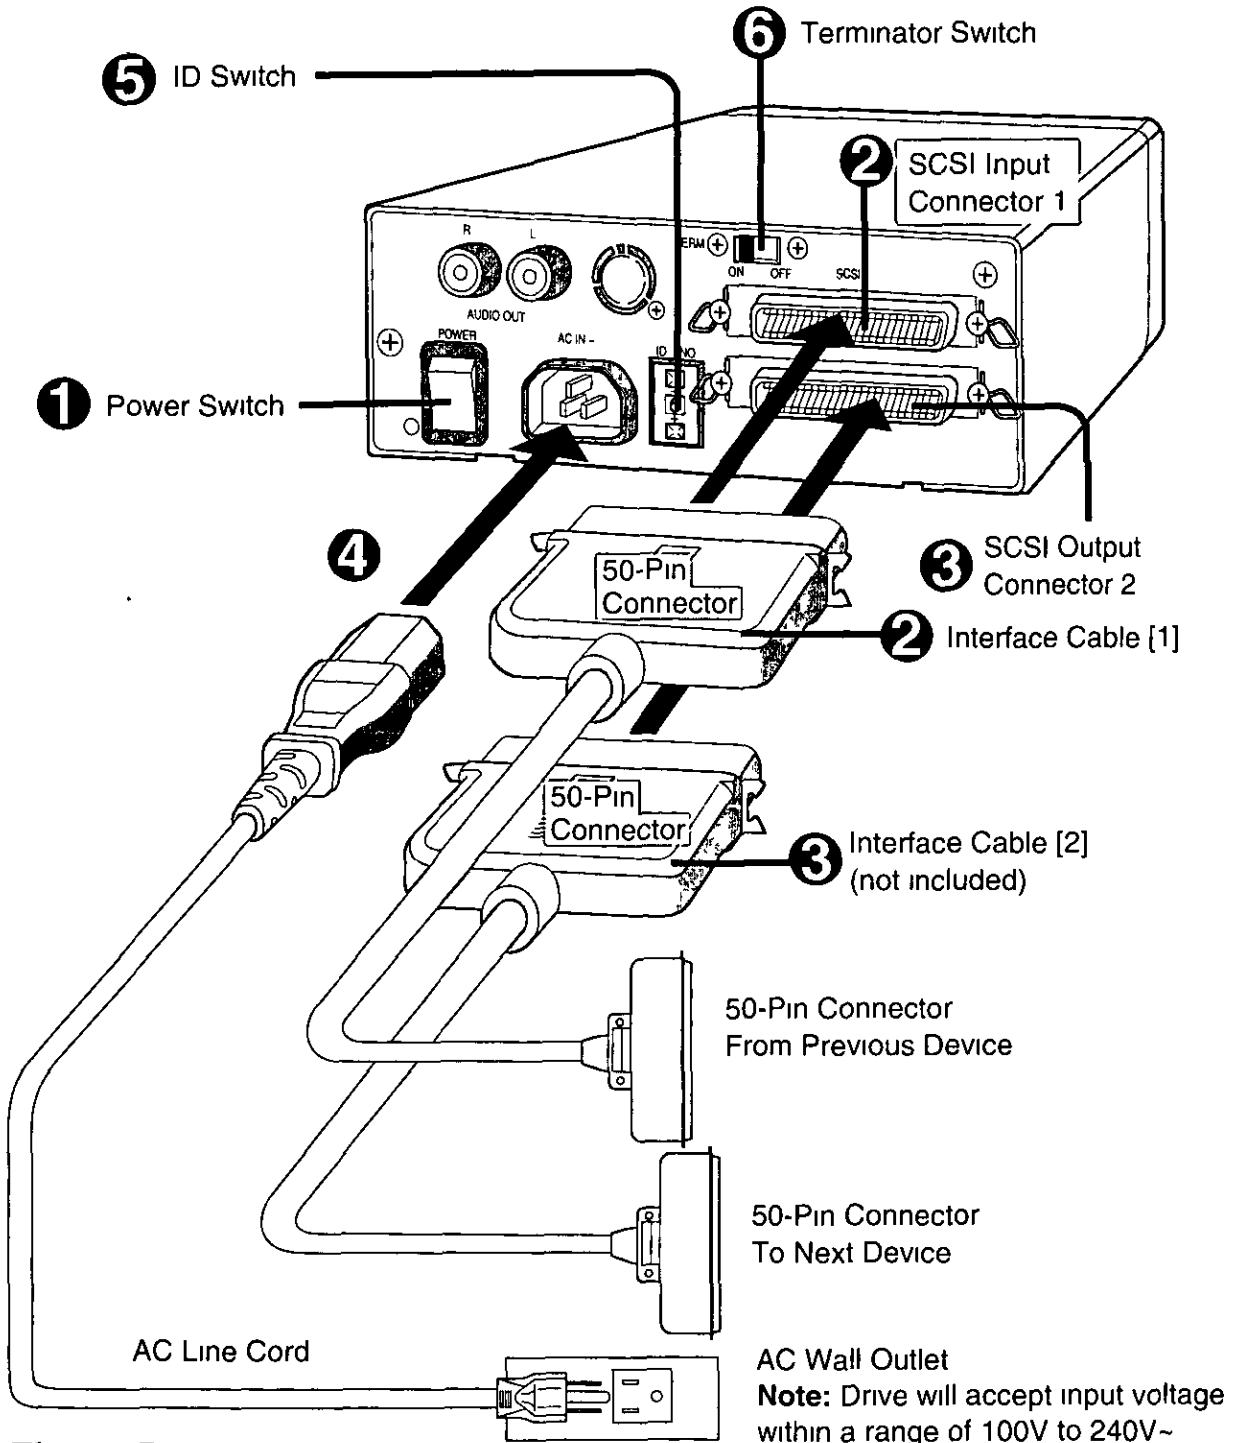

Figure 5
- 2** Install interface cable [1] as shown in Figure 5.
- 4** Connect one end of the AC line cord to the CD-Rtist drive and the other end to the wall outlet as shown in Figure 5